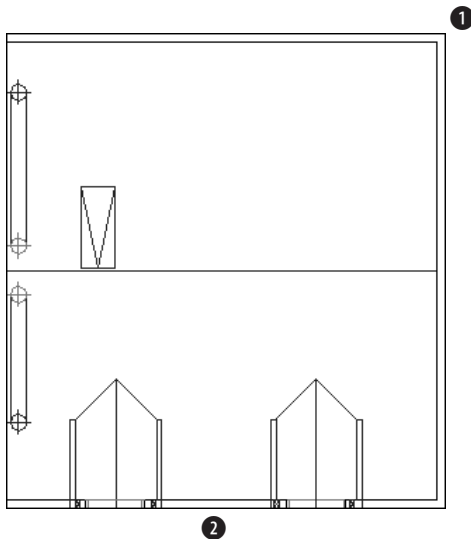

Figure 10-25: A plan view of a garage
2. Save the file as *ab10-08.dwg* in your AutoCAD Bible folder. This drawing is the plan view of a garage, as shown in Figure 10-25. Turn on polar tracking by clicking POLAR on the status bar. Click SNAP on the status bar and then right-click SNAP to make sure Polar Snap is on (the Polar Snap item will be unavailable if it is already on); otherwise, choose Polar Snap. Turn on OSNAP and set a running object snap for endpoints.
3.  Choose Stretch from the Modify toolbar. At the Select objects: prompt, pick ① in Figure 10-25. At the Specify opposite corner: prompt, pick ②. AutoCAD notifies you that it found 32 objects. Press Enter to end object selection.